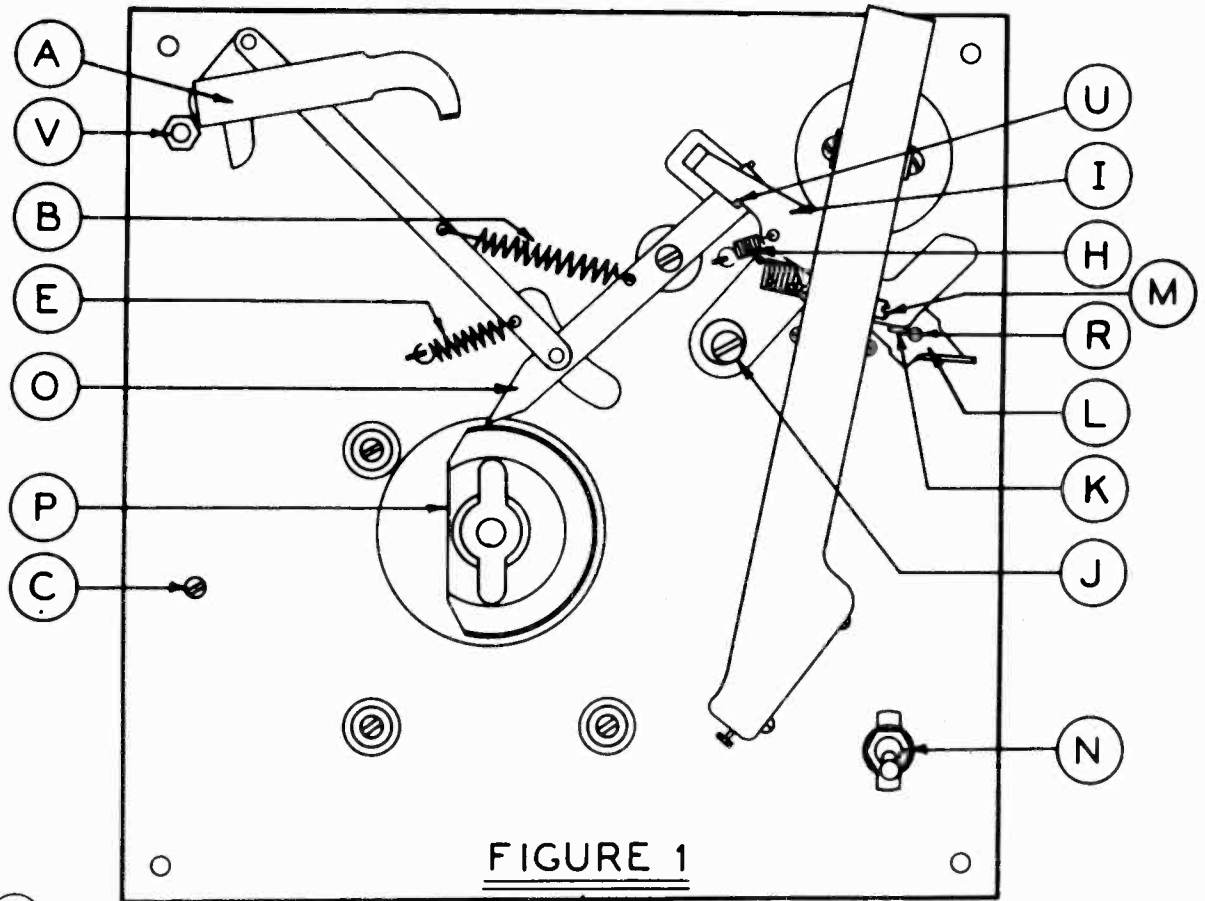
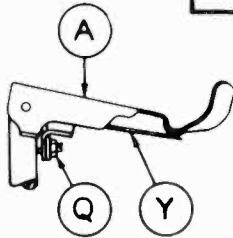

FIGURE 1
FIGURE 3
The trip mechanism is the trigger that sets the Record Changer in motion. This is done by allowing the latch bar at (O) Fig. 1 to drop in front of, and be actuated by the cam at (P) Fig. 1. This cam is driven by the motor and is in motion as long as the motor is running. If this mechanism does not operate smoothly, the precautions outlined in succeeding paragraphs should be observed.
First of all, make sure that the square pin in the latch lever at (U) Fig. 1 latches properly in the notch in the lift lever at (1) Fig. 1. When latched, the notch should be engaged approximately one-half of its depth. The depth of engagement is adjusted by means of the eccentric washer and locking screw at (J) Fig. 1. Now run the record changer through its cycle. If the square pin fails to engage the notch in the lift lever, first check the tension of the latch spring at (H) Fig. 1 to insure that the notch can engage the pin. Next check the tension of the reset spring at (E) Fig. 1. This reset spring should not be under tension when the latch bar is latched but should have enough tension when the latch bar drops back off of the cam to cause the square pin to over travel the notch in the lift lever.
The oval head pivot screw at (R) Fig. 1 serves as a pivot for the lift lever at (1) Fig. 1. This screw should allow the lift lever to be raised by the latch bar to its maximum height without binding but also without any additional play.
If the Record Changer fails to trip, see if the phonograph needle is jumping out of a worn record trip groove. Next make certain that all parts of the mechanism work freely and smoothly. If it is found that the latch bar at (O) Fig. 1 is not dropping in far enough to engage the cam at (P) Fig. 1 then check the tension of the trip spring at (B) Fig. 1.
In case the Record Removing Mechanism fails to operate smoothly, proceed as follows: First make certain that all parts work freely with no binding in pivots or bearings, and that the record removing arm assembly rests on the stop screw at (Q) Fig. 3. Next stop the motor in such a position that the latch bar at (O) Fig. 1 can swing by and clear the cam at (P) Fig. 1. Place just one record on the turntable and measure from the top of this record down to the base plate. This distance should be one inch. Now by pulling the reject lever at (L) Fig. 1 first, it will be found possible to swing the record removing finger at (Y) Fig. 3 over to where it just touches the edge of the record. If the adjustment is correct, the record removing finger should just barely rise over the edge of the first record. If adjustment is required it can be made by means of the stop screw at (Q) Fig. 3. In the event the record removing arm raises the record from the turntable and drops it back in place without removing it, check the lift adjustment at (V) Fig. 1. This adjustment consists of an eccentric stud which is provided with a lock nut, and is made by loosening the lock nut and turning the eccentric stud. The lift adjustment should be set so that the hole in the center of the record just clears turntable spindle when the Record Changer is in operation.